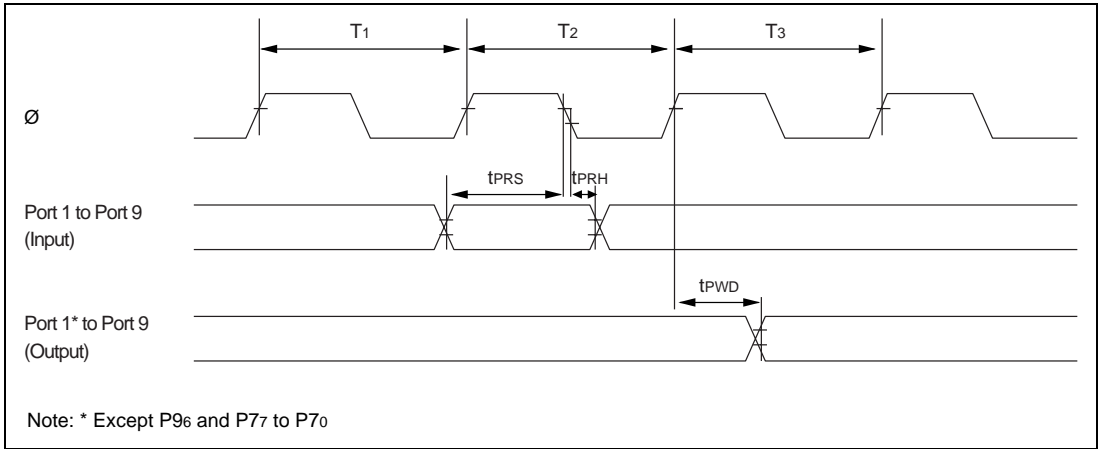

Figure 16.18 I/O Port Input/Output Timing
16.3.7 I/O Port Timing	Figure 16.18